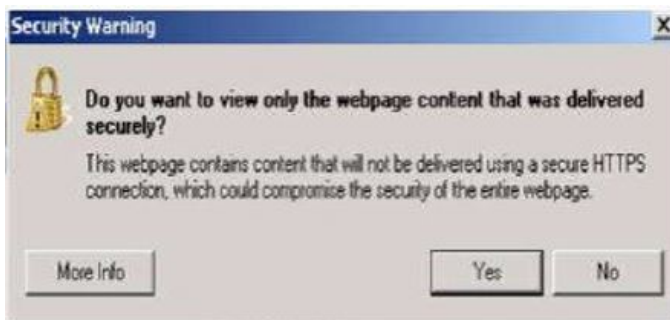

Fig. 2
9. If a security message appears “Do you want to view only the web page content that was delivered securely?” Fig. 2. Press “No” to continue.